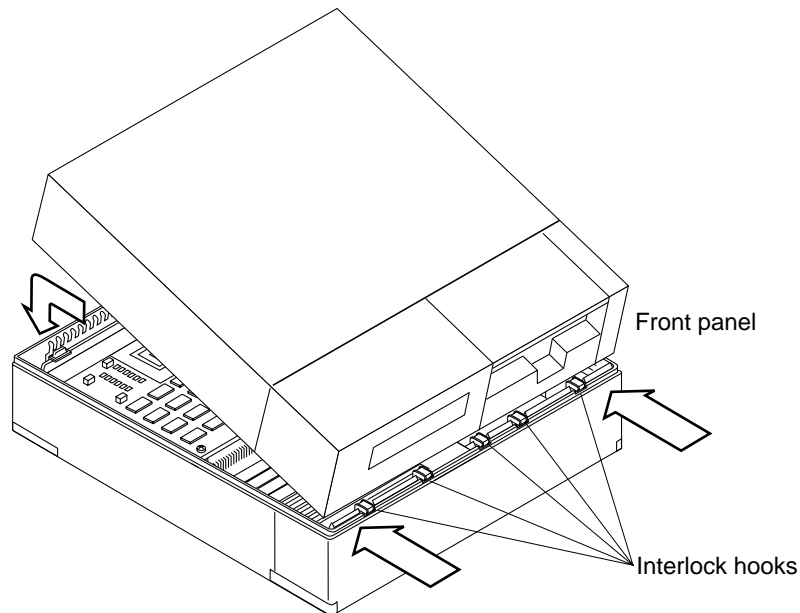

Figure 3-9 Closing the System Unit of a Two-slot SPARCstation
- 1. Grasp the front of the unit near the power supply as shown in Figure 3-9.** Tilt the unit top at a 45-degree angle and line up the five interlock hooks on the front panel.